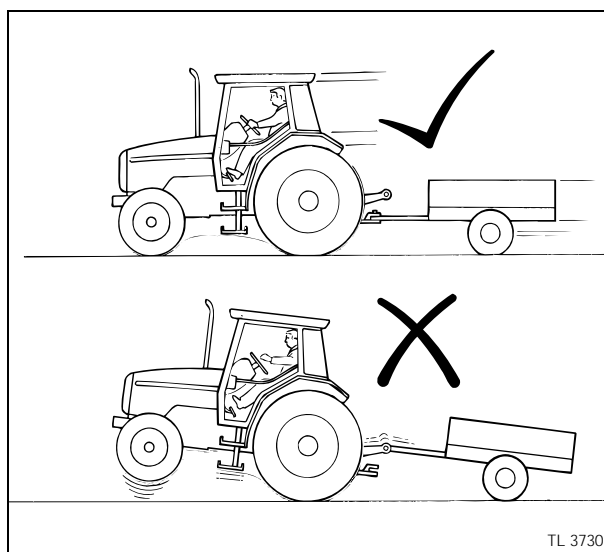

Fig. 24
- Pull only from the approved drawbar. Towing or attaching to other locations may cause the tractor to overturn (Fig. 24).